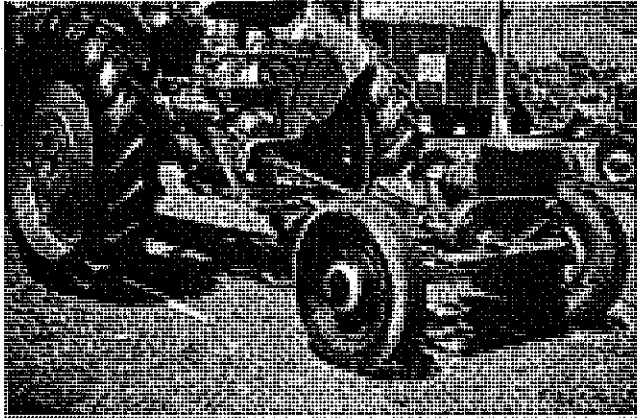

Fig. 3. Welder driven by power take-off.
3. Welder mounted on Trailer and Driven by "Power Take-off" (See Fig. 3) -- Welder should be mounted on a fixed framework either on or off a trailer but power take-off shaft will now drive a large pulley which will in turn be connected by short belts to the pulley on the welder. Belt tension will have to be maintained by adjustment bolt.